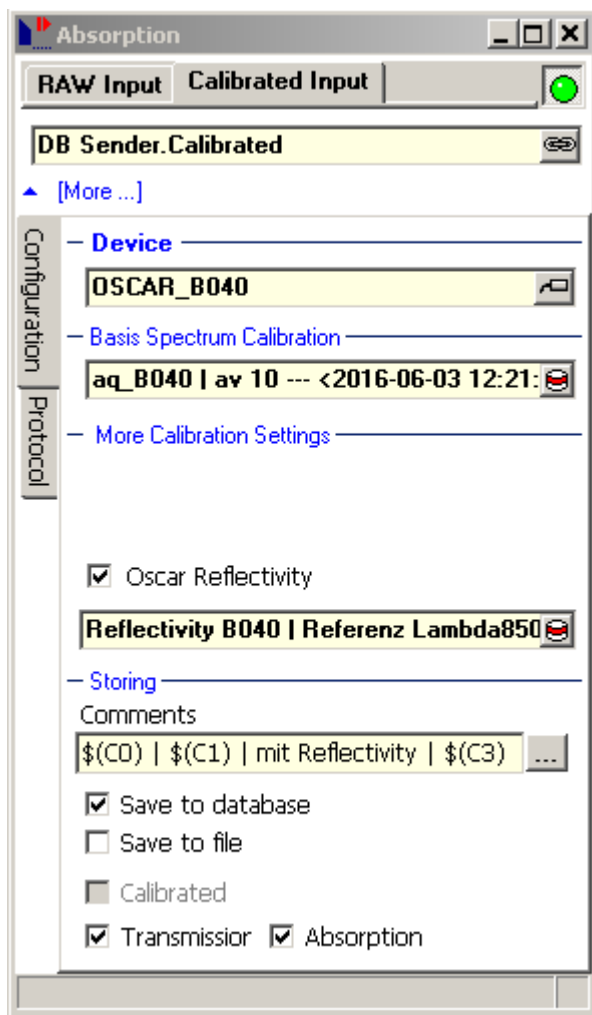

Fig. 31. Absorption window for the calculation of absorption spectra with reflectivity
- To calculate collected data, open main menu – processing – spectrum – absorption (Fig. 31).